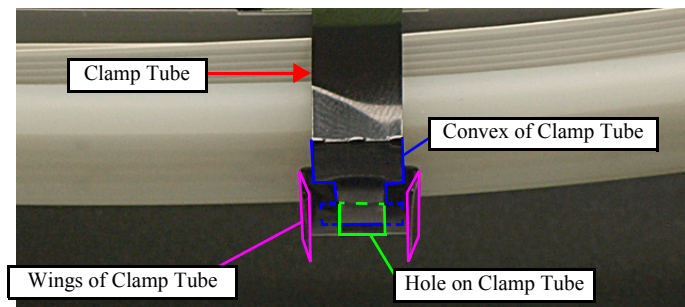

Figure 4-83. Installing the Clamp Tube
- Secure the convex sections (x2) of the Clamp Tube into the hole of it from outside to inside as shown in Fig. 4-83.
- Fold the wings inward as shown in Fig. 4-83.